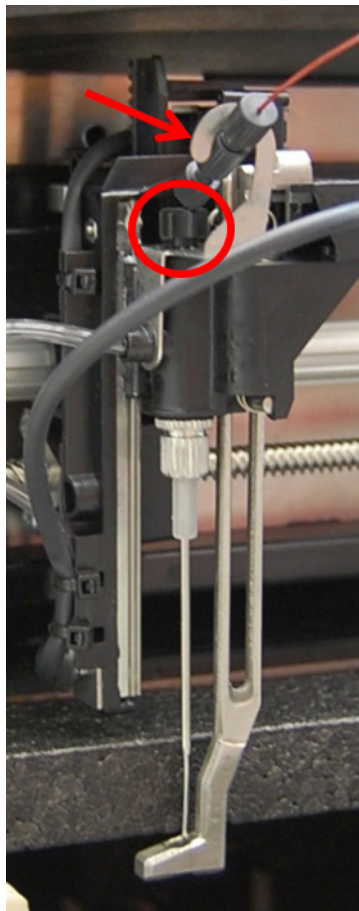

Figure D-3 Sample Needle Retaining Clip (Arrow) and the Air Nut (Circle)
6. Gently push the sample needle out of the retaining clip, if present (Figure D-3). (The retaining clip is not present on all NanoLC AS-2 autosamplers.)
7. Unscrew the air nut by rotating it counter-clockwise (Figure D-3).